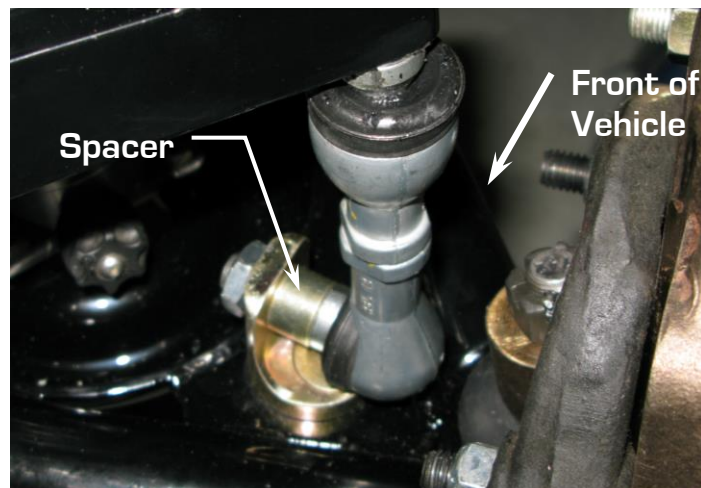

Figure 1 - Adapter Orientation
9. Install the anti-roll bar end link adapter on the lower control arm. Refer to Figure 1 for the correct orientation. Use the provided 1/2"-20 x 1.5" countersunk bolt, flat washer, and the nyloc lock nut. Torque to 70 ft-lbs.
11. Place the stud from the anti-roll bar end link through the hole in the anti-roll bar end link adapter. If the car is a '64-'67 model, use the 3/4" OD x 1/2" ID x 1/2" long spacer and on the '68-'72 models use the 3/4" OD x 1/2" ID x 1/4" spacer. Refer to Figure 1 above to see the location of the spacer. On the '64-'67 models, use the M12 x 1.75mm hex jam nut and flat washer. On the '68-'72 models, use the M12 x 1.75mm nyloc jam nut and flat washer. Apply High Strength Loctite 282 to the threads but do not tighten at this point.